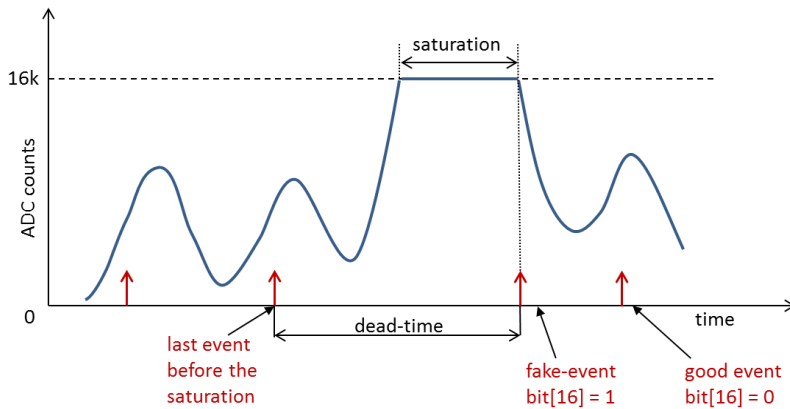

Fig. 5.2: Dead-time in case of signal saturation.
- 1) DEAD_TIME in case of signal saturation (**Fig. 5.2**). If the input signal is over-range (exceeds the input dynamic range of 16k ADC channels) then the acquisition is inhibited. As soon as the input signal is out of saturation a fake event is saved. This fake will have the bit[16] is set to 1, and the energy value set to FFFF. The dead time is equal to the time difference between the last trigger occurred and the fake-event trigger after the saturation.